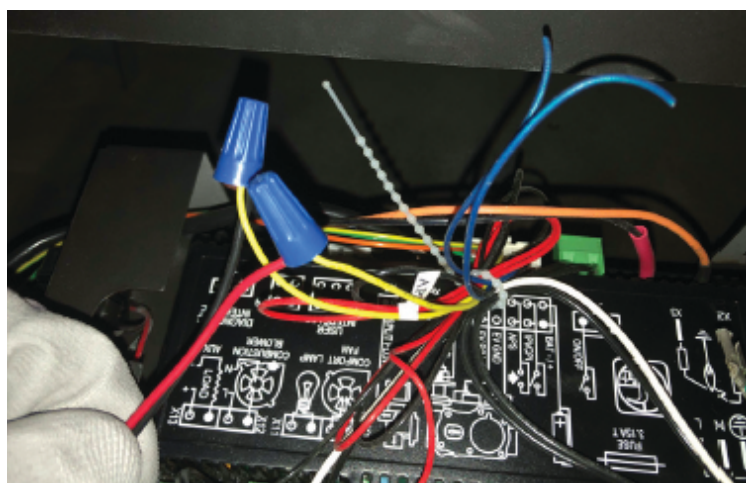

Figure 6.18 - APS Wire Nuts
8. Locate the yellow looped "APS" wire on the control module wire harness. Cut this looped wire for two individual yellow wires. Strip back approximately 1/2" of the end of each wire. Using the (2) provided blue wire nuts, twist one of the yellow APS wires into the brown wire coming from the vacuum switch in the power vent assembly. Use the second blue wire nut to twist the second yellow APS wire to the red wire coming from the vacuum switch as shown in Figure 6.18.